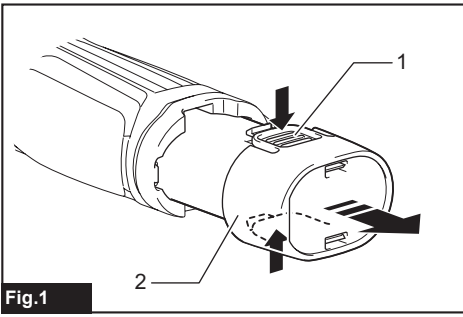

Fig.1
► Fig. 1: 1. Button 2. Battery cartridge